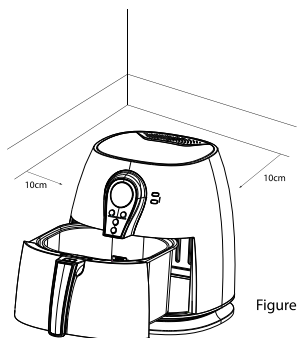

Figure 1
3. Place the appliance on a flat, horizontal and stable surface (make sure surface is heat-resistant). Place away from walls and other appliances. Leave approximately 4 inches of space from nearby objects (see Figure 1).